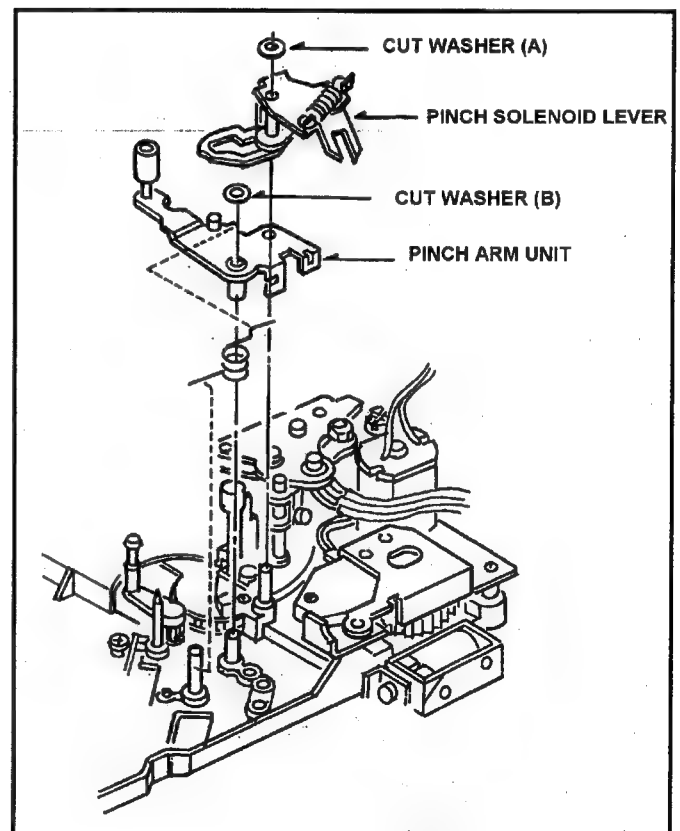

Fig. 6-5-1 Removal of Pinch Arm Unit
5. Remove the Pinch Solenoid Unit (Refer to item 6-9, then hang off the Pinch Solenoid Lever as shown in Figure 6-5-1).
6. Remove the cut washer (A) and remove the Pinch Solenoid Lever as shown in Figure 6-5-1.
7. Remove the cut washer (B) and remove the Pinch Arm Unit as shown in Figure 6-5-1.